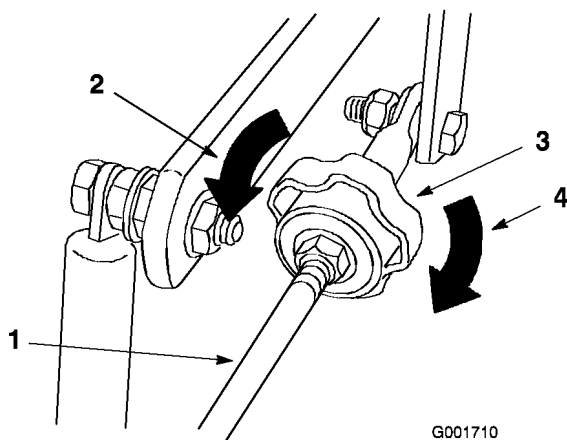

Figure 43
4. Adjust the tracking as follows (Figure 43):